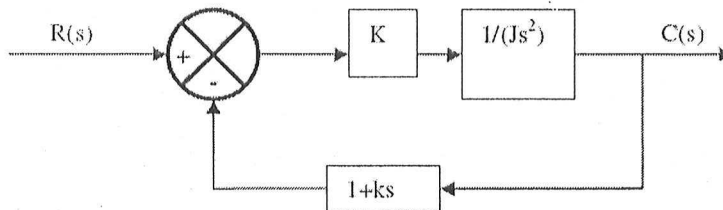

Fig. 1
- c) Determine the values of K and k of the closed-loop system shown in Fig 1 so that the maximum overshoot in unit step response is 25% and the peak time is 2 sec. Assume that $J=1 \text{ kg-m}^2$.